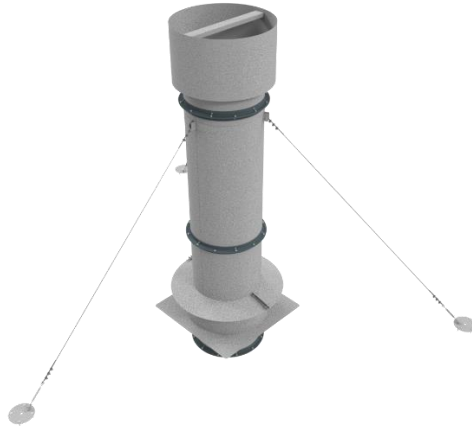

Figure 9 – Guy Wire Kit
- NOTE: wire rope clamps should be oriented with the nuts on the live side of the rope as shown in Figure 9. The dead end of the rope should be at least 2-1/2 inches past the third clamp, with the clamps 1-1/2 inches apart.